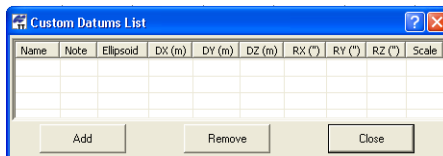

Figure 2-21. Custom Datums List
2. On the *Custom Datums List* (Figure 2-21):